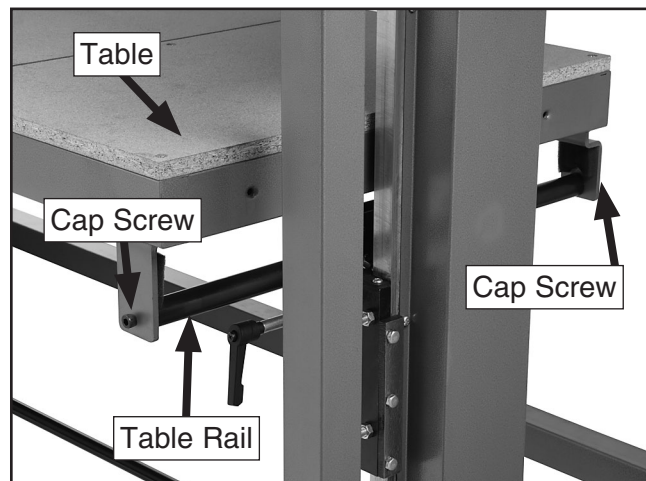

Figure 25. Table mounting.
- With the help of an assistant, place the table over the table rails and secure it with the (4) $\frac{5}{16}$ -18 x $\frac{3}{4}$ " cap screws and $\frac{5}{16}$ " flat washers (**Figure 25**).